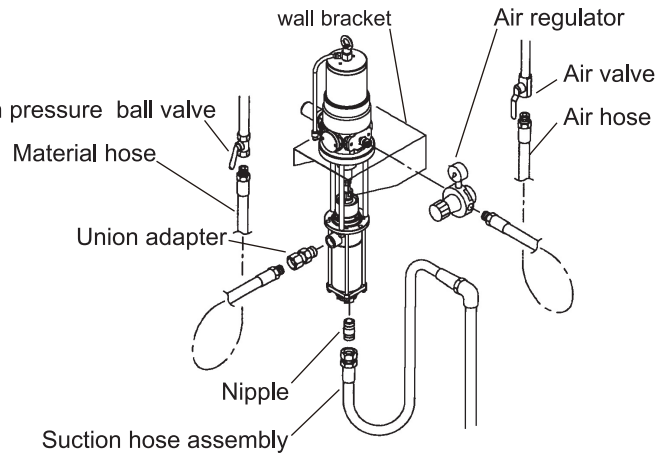

Fig. 6
- 2) Connect a suction hose assembly (sold separately) to the pump. (Fig. 6)